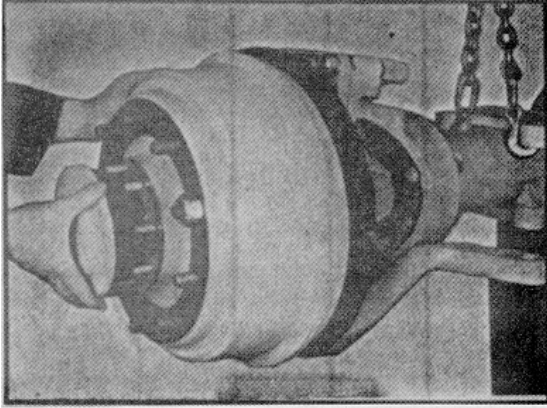
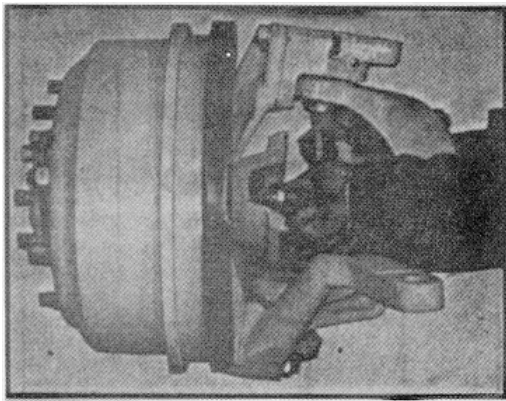

Fig. 38
Fig. 39
4. Install the yoke spacer ring onto the outer axle shaft splines. Insert the shaft into the spindle bore, rotate and align the splines with the drive yoke splines, rotate the shaft and yoke to align the flange holes with the drive studs. (See fig. 38). Insert the long (2 inch) yoke retaining bolt through a new sealing washer, through the retaining washer and into the threaded hole in the shaft end. (See fig. 39). Tighten to specified torque.